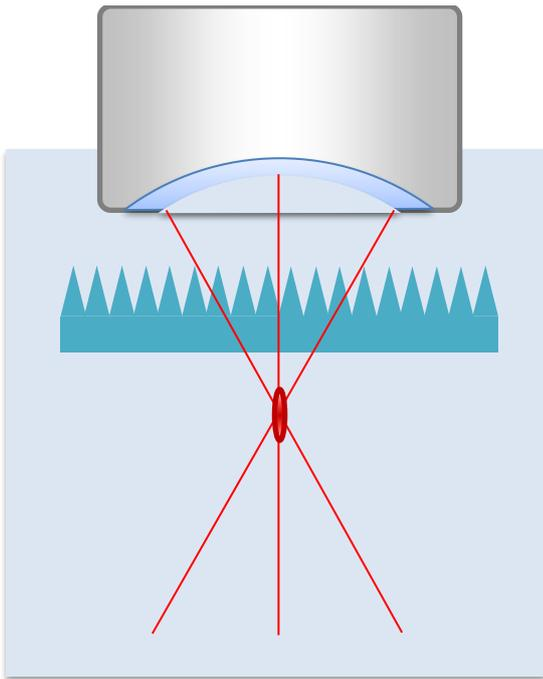
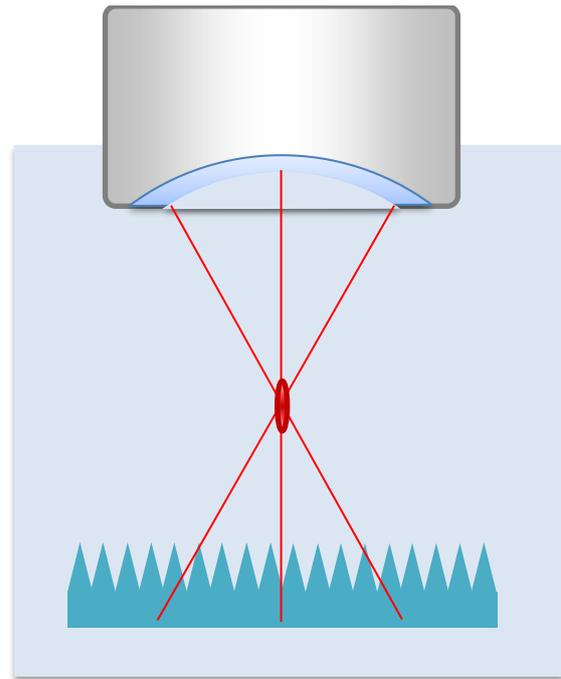

Figure 7 – RFB target in the pre-focal region
Figure 8 – RFB target in the post-focal region
Hold the transducer to be measured in the clamp provided (⑤ in Figure 1) so that its front face is fully immersed and positioned centrally above the absorber. When measuring strongly focussed fields, the target of the RFB should be well within the pre- or post-focal regions (Figure 7 and Figure 8 respectively) as high intensity fields have the potential to damage the absorber.
When the RFB target is in the post-focal region (Figure 8) there is the chance that the RFB target will not encompass all of diverging beam. Therefore, of these two configurations, placing the transducer such that the RFB target is pre-focal is preferred. A distance between the transducer and absorber should ideally be about 10 mm. Once the transducer alignment process is complete, tare the balance so that the reading is near zero.